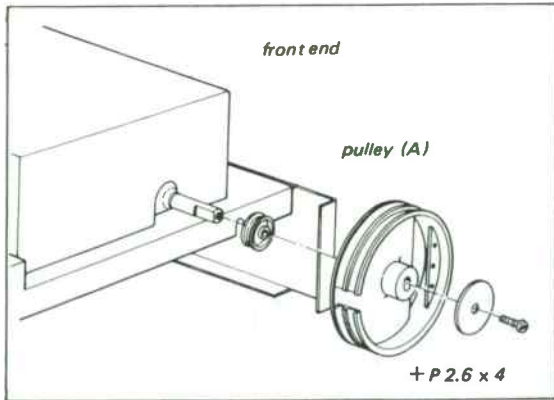

Fig. 2-14 Tuning-capacitor drive drum installation
2. Remove the washer from the tuning capacitor shaft by loosening the screw (+P 2.6 X 4) as shown in Fig. 2-14.
- Remove the washer from the tuning capacitor shaft by loosening the screw (+P 2.6 X 4) as shown in Fig. 2-14.